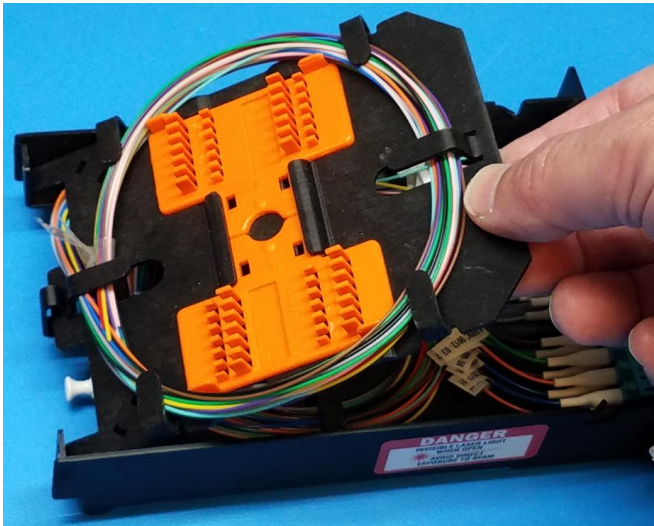

Figure 2
3.2 Remove the splice deck by lifting the front edge. (See Figure 2) Lift out of the base and set aside.